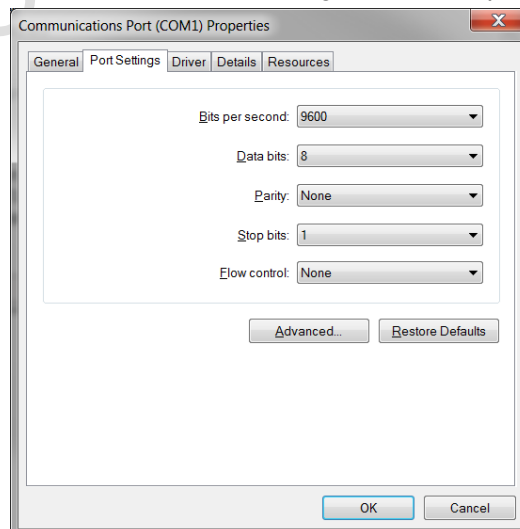

Figure 6
- 8.2.2 Connect the I/O cable to the CTD. Connect the Serial Port connector directly to the PC. Connect a 12V power supply into the power jack input. Refer to Figure 6 for connection diagram.